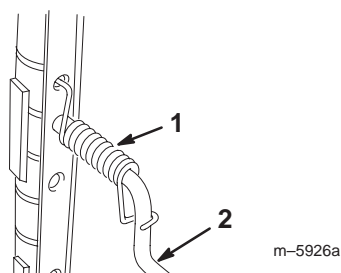

Figure 6
2. Ensure that the end of the torsion spring is anchored in the right side of the upper handle as shown in Figure 6.
3. Hook the torsion spring around the traction control bar as shown in Figure 6.
4. Rotate the traction control bar one revolution to wind the spring and hold it (Fig. 6).